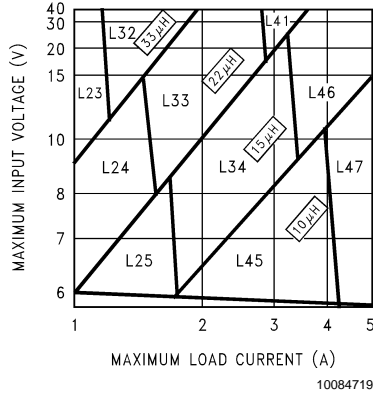
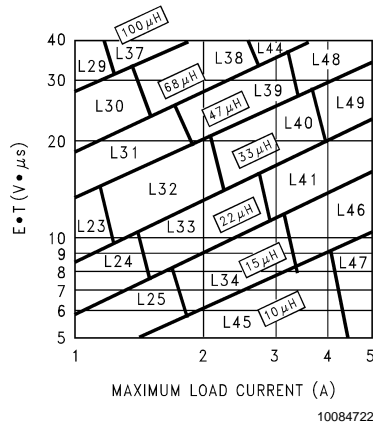

FIGURE 3. LM2679-3.3
FIGURE 6. LM2679-ADJ
Step 3: Determine the inductor required by using one of the four nomographs, *Figure 3* through *Figure 6*. Table 1 provides a specific manufacturer and part number for the inductor.
Step 5: Determine an input capacitor from Table 4 for fixed output voltage applications. Use Table 2 to find the specific capacitor type. For adjustable output circuits select a capacitor from Table 2 with a sufficient working voltage (WV) rating greater than $V_{\text{in max}}$, and an rms current rating greater than one-half the maximum load current (2 or more capacitors in parallel may be required).
Step 3: Use the nomograph for the 3.3V device, *Figure 3*. The intersection of the 16V horizontal line ($V_{\text{in max}}$) and the 4A vertical line ($I_{\text{load max}}$) indicates that L46, a 15 μH inductor, is required.
Step 3: To use the nomograph for the adjustable device, Figure 6, requires a calculation of the inductor Volt•microsecond constant (E•T expressed in V•μS) from the following formula:
Using Figure 6, the intersection of 27V•μS horizontally and the 3.5A vertical line (I_{load max}) indicates that L48, a 47μH inductor, or L49, a 33μH inductor could be used. Either inductor will be suitable, but for this example selecting the larger inductance will result in lower ripple current.
Important Note: When using the adjustable device in low voltage applications (less than 3V output), if the nomograph, Figure 6, selects an inductance of 22μH or less, Table 6 does not provide an output capacitor solution. With these conditions the number of output capacitors required for stable operation becomes impractical. It is recommended to use either a 33μH or 47μH inductor and the output capacitors from Table 6.